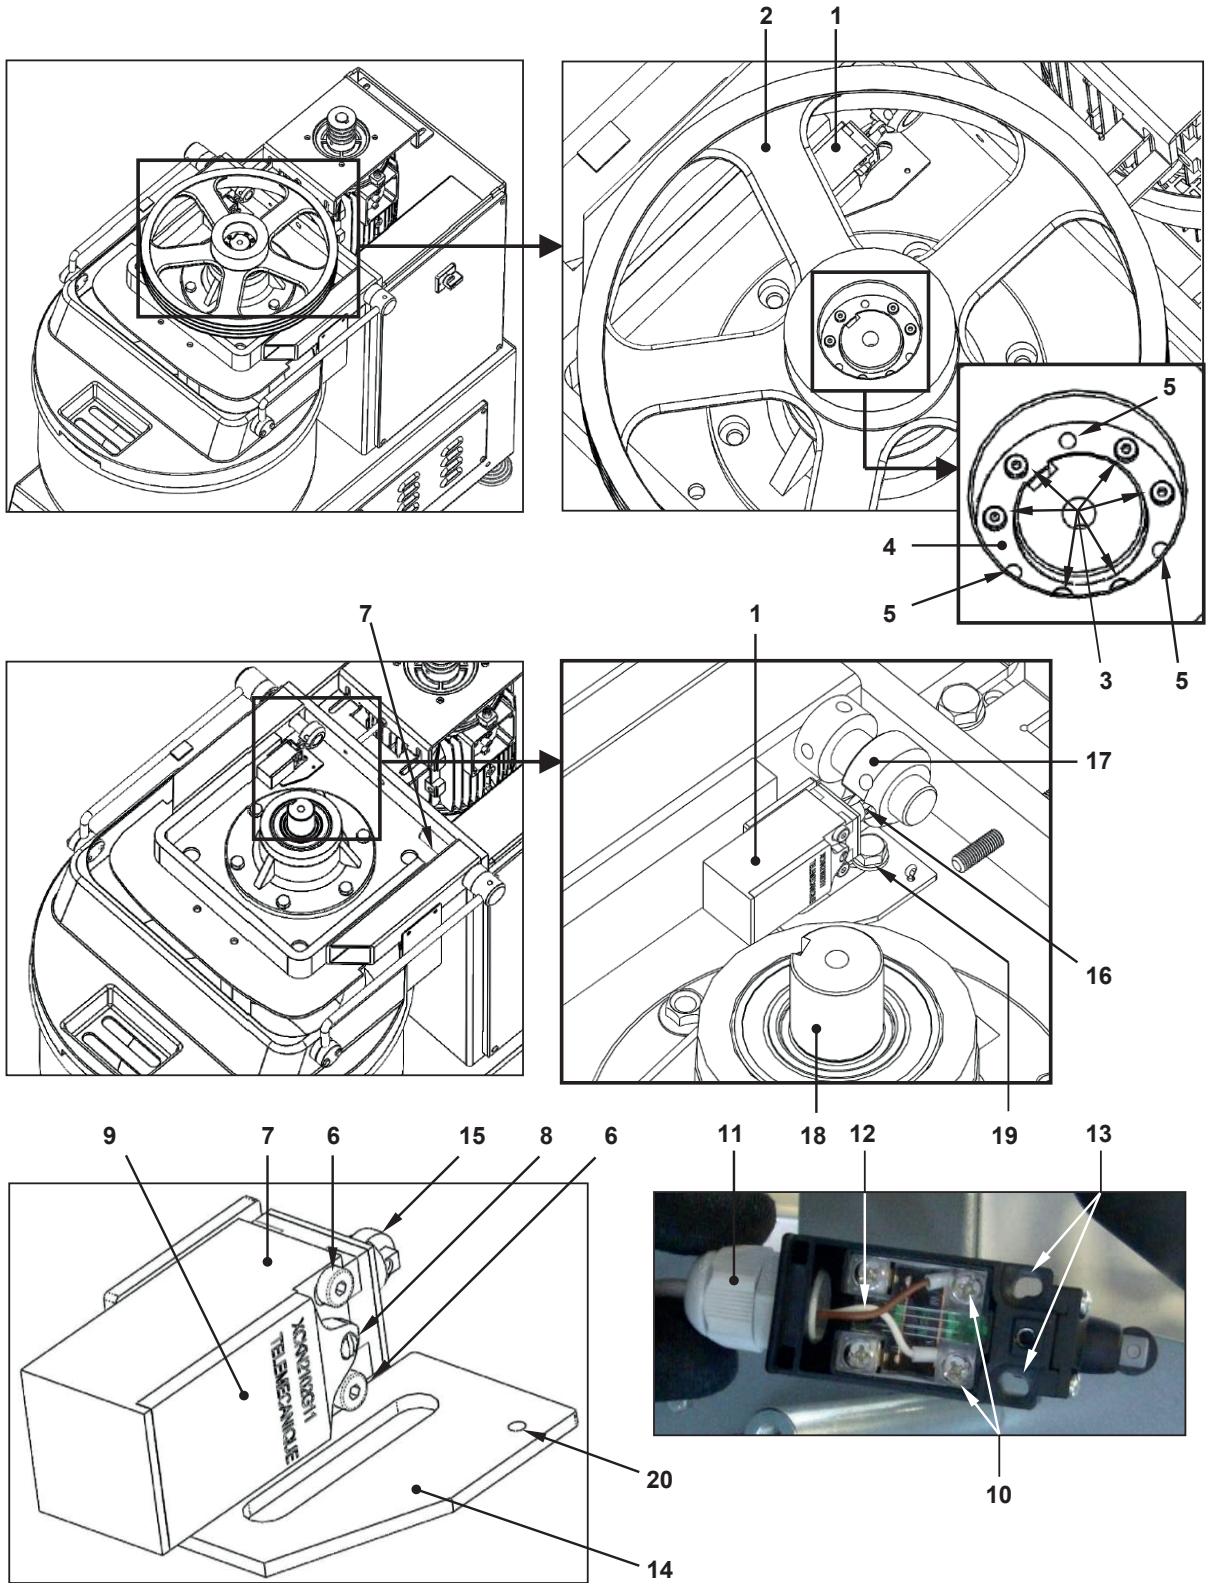

Figure 20 - Replacement of the micro-switch associated with the guard
- With reference to Figure 20, where replacement is necessary of the/a micro-switch, proceed as follows (for machines equipped with no. 2 micro-switches in Figure 20 only one is shown with ref. 1, the other, ref. 7, only has the position indicated, but the replacement instructions are the same for both):